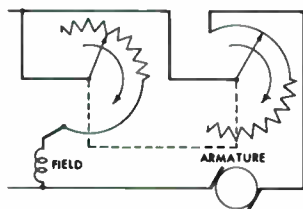
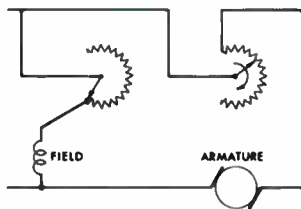

Fig. 52: Conventional tandem rheostat in field and armature circuit of motor.
Fig. 53: Sequence-coupled rheostat in field and armature circuit of motor.
(1) *The physical size of tandem rheostat assemblies used for motor speed control can be reduced considerably.* Where conventional tandem rheostats are used in combined motor-armature, motor-field or combined motor-field, generator-field control, opposite halves of the two rheostats must be “zero” resistance to permit full current to be maintained in one circuit while the current is varied in the other circuit (Fig. 52). With sequence-coupled rheostats, however, each rheostat controls its circuit in turn while the other remains fixed at the maximum current position. Hence, the zero resistance halves are not required (Fig 53) and rheostat size may be approximately halved.